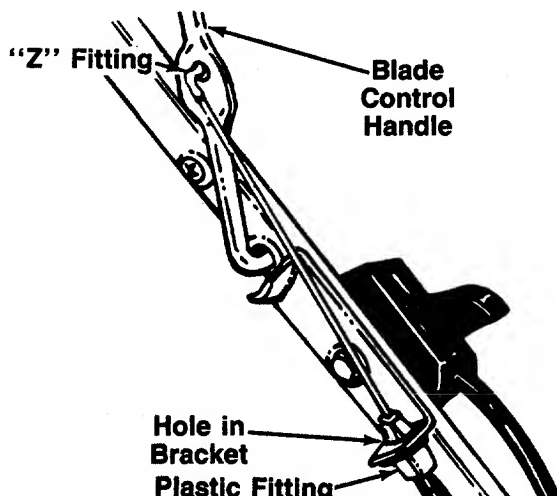

FIGURE 4.
1. The brake cable is attached to the engine, and has a "Z" fitting on the loose end. Route the brake cable below the lower handle. Place end of cable through the hole in the bracket as shown in figure 4.
2. Hook the "Z" end of the brake cable into the hole in the blade control handle from the inside to the outside as shown in figure 4.